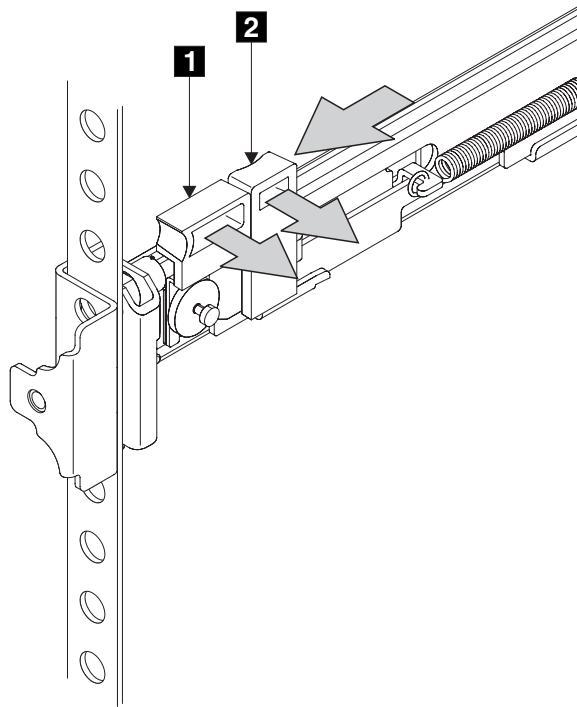

Figure 64. Closing the latch-lock carrier assembly
8. Push the latch lock **2** (Figure 64 on page 91) away from the rail to release the carrier. The latch-lock carrier slides toward the front of the rack and the locating pins project through the holes that are in the front flange and in the front rail bracket.